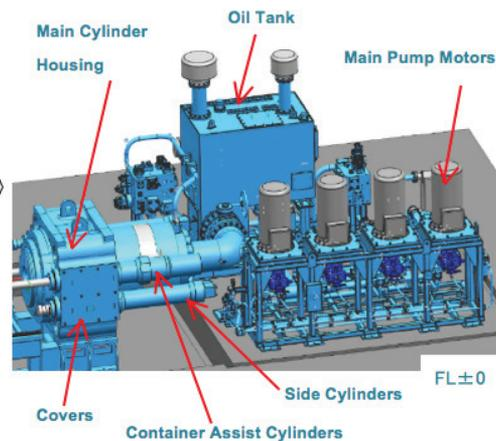

Figure 4. Position of the hydraulic tanks on the new press.
**Decreased Hydraulic Oil Volume:** Based on feedback from customers and UBE field service personnel, the company chose to locate the oil tank, main pumps, auxiliary pumps, and manifolds on the floor behind the main cylinder (Figure 4). This location makes the tanks and pumps more accessible for easier press maintenance and filter changes. The side cylinders and the container assist cylinders can be changed on the side of the press, after removing the noise reduction covers installed on the main cylinder housing. The oil tank was designed to reduce oil volume by 25%, with a taller tank to eliminate oil supplied to the main ram through the prefilling valve. The drain pipe is designed so that it will not draw air into the system when there are variations in oil level.